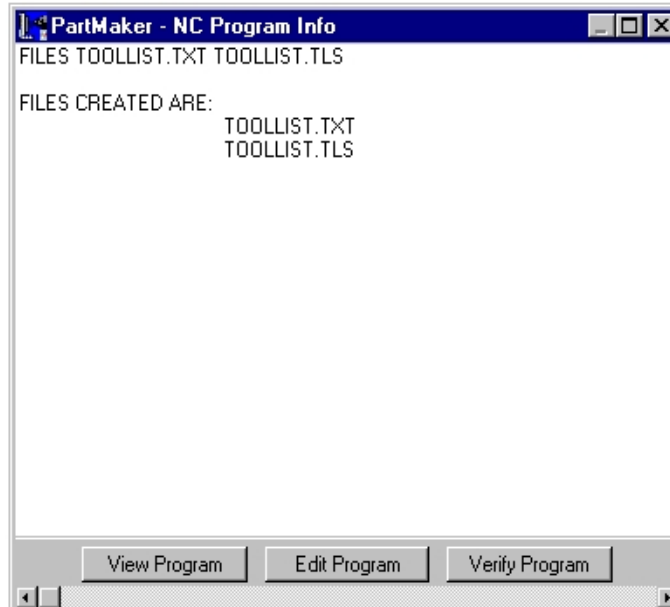

Figure 3-3 Toollist.txt & Toollist.tls
- 6 Click the View Program button and you should see the Tool List as in Fig. 3-3.